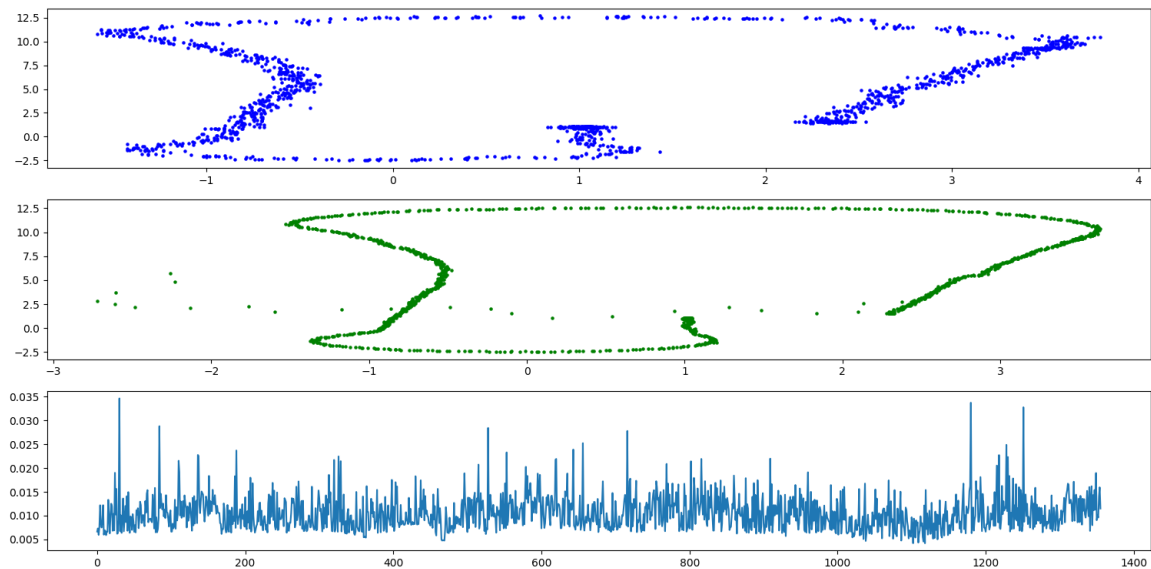

Figure 2: Less particles
2. Exploration of possible states is limited as shown in figure 2